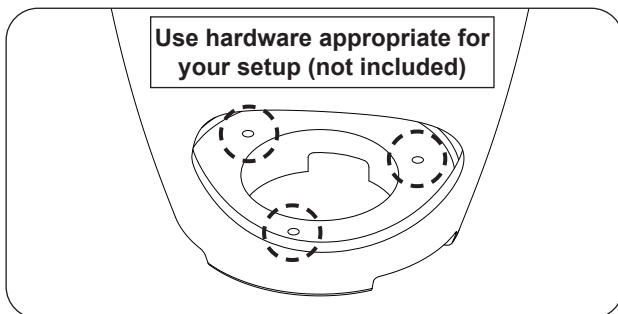

Fig. 27-3 Secure fire urn to floor
5. **520, 530 Models:** Using the appropriate mounting hardware (not included) for the floor material/construction, secure the urn into the floor. The interior of the urn has three $\frac{1}{2}$ " holes to fasten the fire urn unit. See Fig. 27-3.